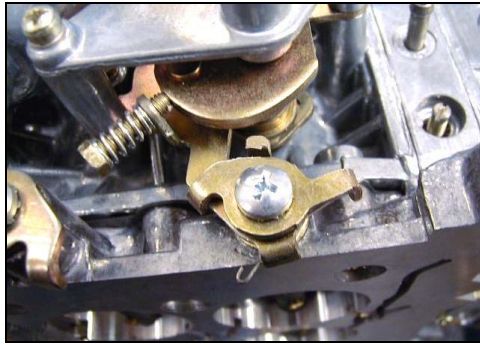

Figure 6
9. Using the three (3) equal-length short screws from the kit, fasten the retaining ring and choke cap to the choke housing just enough to hold the cap in place, but will allow the choke cap to be rotated (see Figure 6 on the next page).